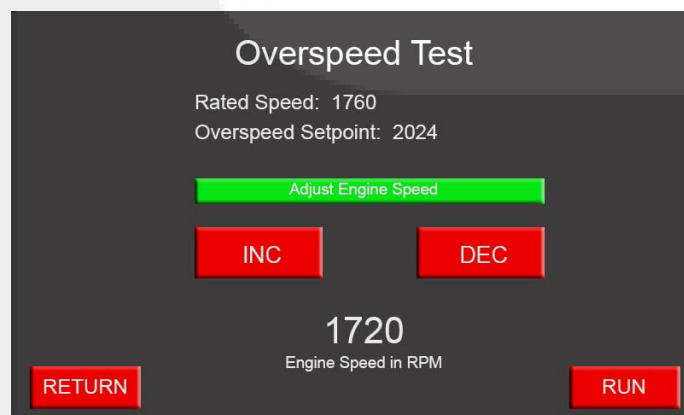

Figure 4-12 Overspeed Test - Adjust Engine Speed
3. If necessary, press **RPM ADJUSTMENT** (shown in Figure 4-12) and then use the **INC** and **DEC** buttons to increase or decrease the engine speed by increments of ten RPM.